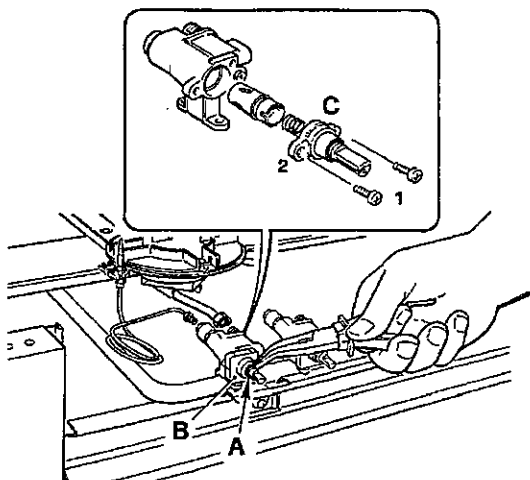

fig. 33
- unscrew the control panel screws and remove it (Fig. 33)
- remove the ignition switch "B" (Fig. 33) if fitted after removing clip "A"
- unscrew the two cap mounting screws (A - Fig. 33)